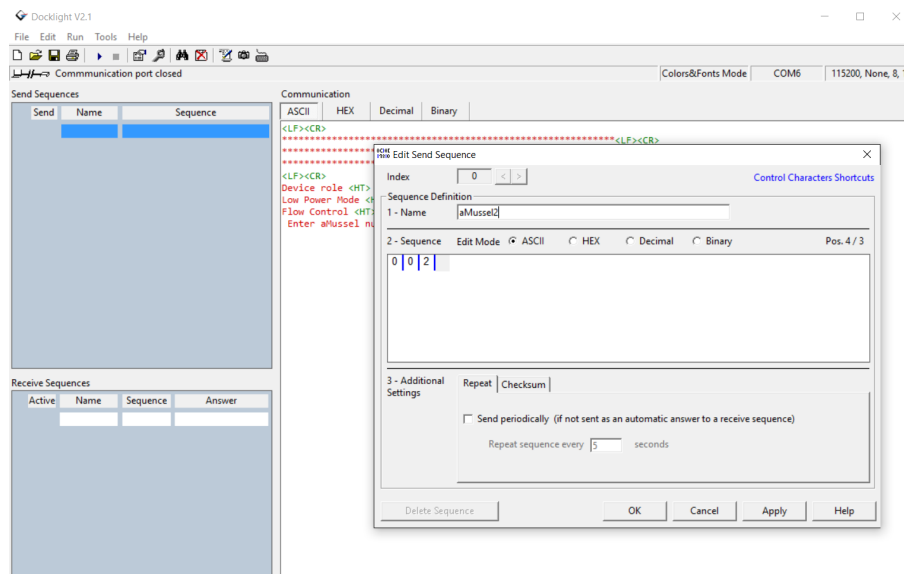

Figure 1.7: Selecting a device to connect to
5. The next step is to select device ID you wish to connect to. You do so by sending a sequence representing device's unique identifier. For example, if BLE board on aMussel is programmed to have ID 001, the sequence needs to match it. For reference, look at Figure 1.7.